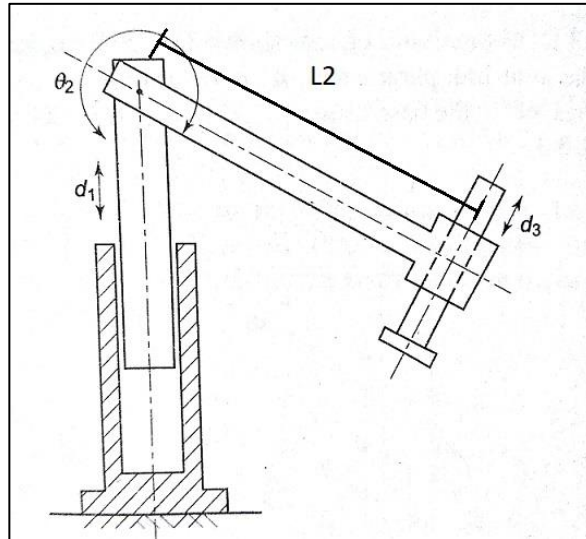

Fig.3A
- 3A.** Determine the DH parameters and obtain the direct kinematics for PRP robotic manipulator arm as shown in Fig.3A. 05
- 3B.** Calculate the Jacobian Matrix for the Fig.3A. Evaluate the end-effector velocities if joint velocities are given as $[3, 5, 4]^T$, assuming Link Length L_2 as 100 mm. **05**